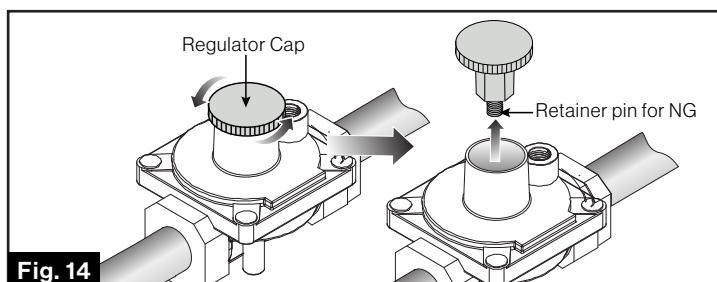

Fig. 14
- Unscrew the regulator cap with the wrench by anticlockwise, then remove it from regulator by vertical direction. (Fig. 14)